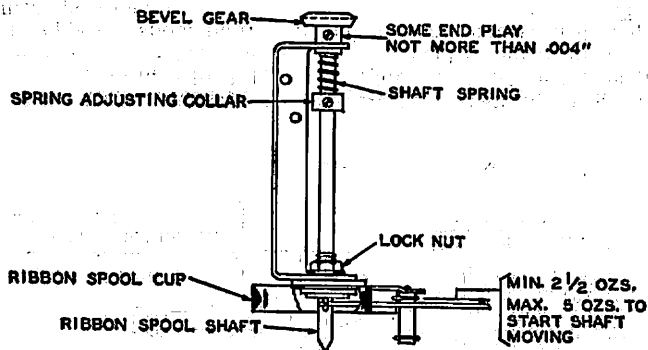

Fig. 22
3.45 **Ribbon-spool shaft springs.** The resistance to turning caused by the ribbon-spool-shaft springs shall be Min. 2-1/2 ozs., Max. 5 ozs. measured by pulling on the pin, with ribbon-feed shaft disengaged from ribbon-spool shaft. Fig. 22